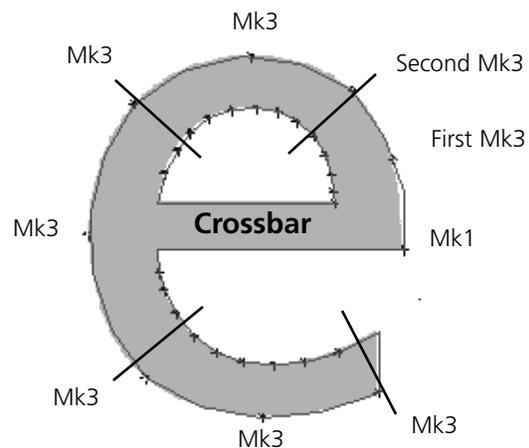

Figure 3-16
Rule one states to always begin with a Mk1. The beginning Mk1 has already been put at the lower right corner of the crossbar of the letter **e** (see step 6 in the previous section and Figure 3-16).
1. Enter a Mk3 in the middle of the first arc segment and another Mk3 at the location between the first and second arc segments (see Figure 3-16).